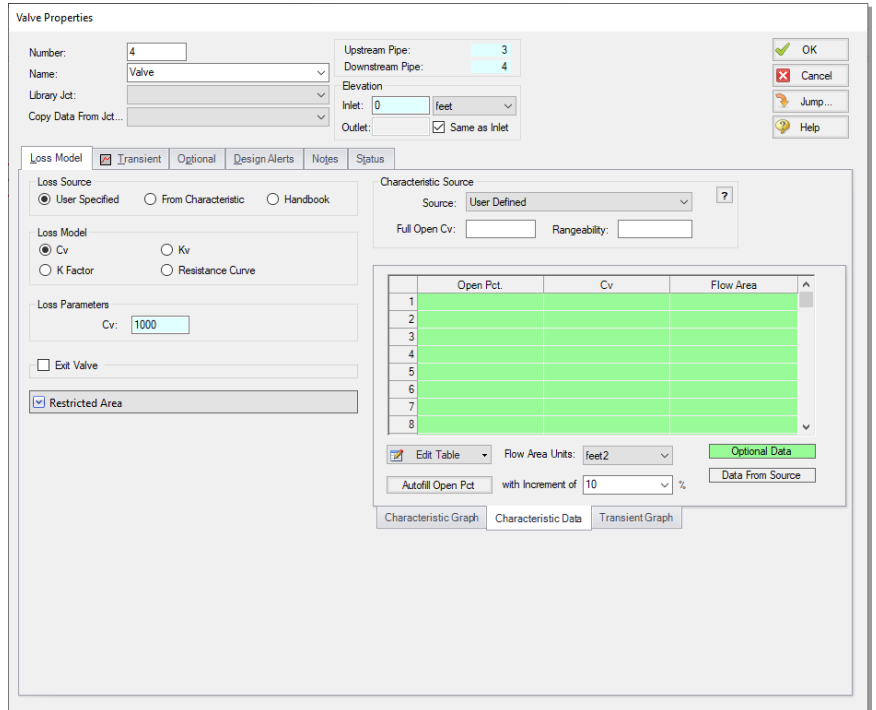

Figure 2.15 Input data for the J4 Valve junction
- **Open the J4 Valve Properties window** and enter the following data (Figure 2.15):